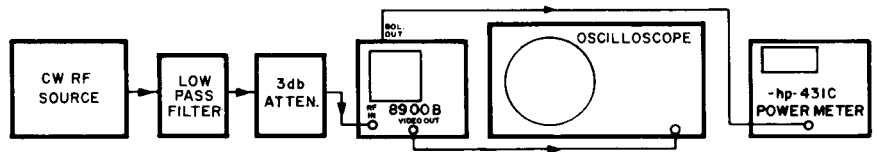

Figure 5-2. Calibration Check
1. Connect equipment as shown in Figure 5-2.
<ol style="list-style-type: none"> 1. Connect equipment as shown in Figure 5-2. 2. Set 8900B Function Switch: MEAS COARSE and FINE controls: Adjust for 20 mw reading on Peak RF Meter Pulse Generator Pulse Amplitude: 100 volts, negative-going Repetition Rate: 10 kHz Pulse Width: 10 μsec Trigger: Internal RF Source Output Frequency: 900 MHz Oscilloscope Vertical Sensitivity: 50 mv/cm 3. Adjust level of RF source to 20 mw as determined by 8900B measurement. 4. Change 8900B Function Switch to MON/CAL position. 5. Change oscilloscope connection from 8900B VIDEO OUT to MON OUT connector and measure voltage level. The detected pulse level should be greater than 200 mv P-P for 20 mw input.